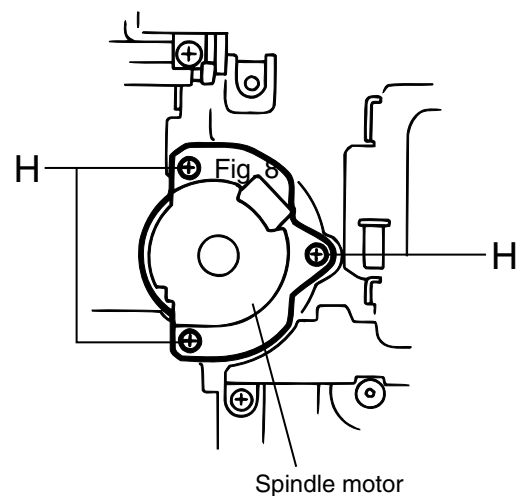

Fig. 14
■ Removing the Spindle motor (See Fig.14)